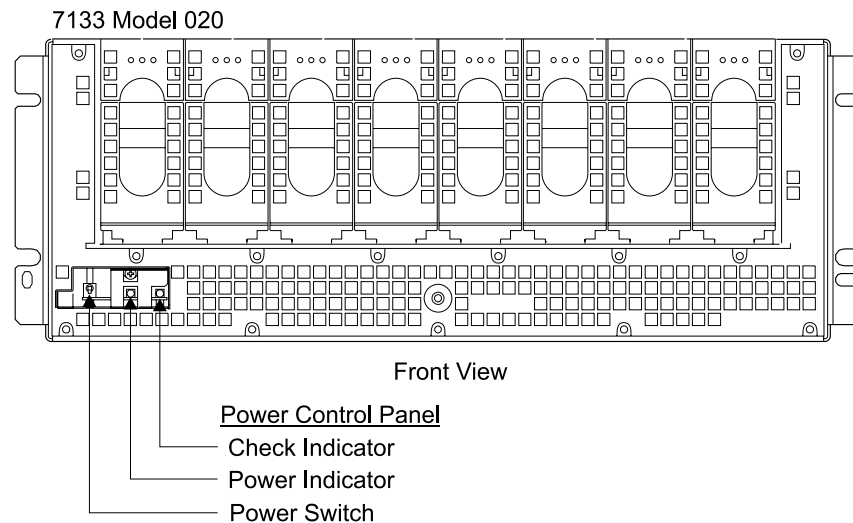

Figure 99. SSA DASD Model 020 Power Control Panel Locations (S008020m)
3. Locate drawer-B, see "Locating a DDM Bay or SSA DASD Model 020 or 040 Drawer in a 2105 Rack" in chapter 7 of the *Enterprise Storage Server Service Guide, Volume 3*. Look at the Possible FRUs to Replace list. The Bypass Card with 35% probability will be in Drawer B. Use the location code of that card to find Drawer B. Use Figure 99 in the following steps to locate the switch and indicators on the SSA DASD drawer-B power control panel: